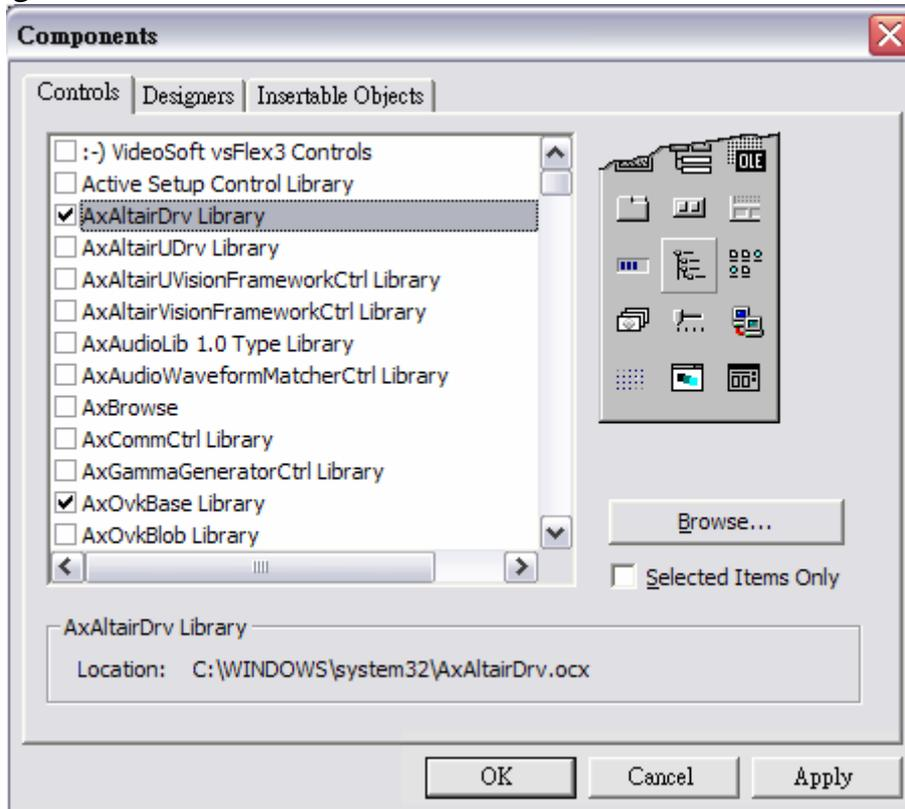

Figure 17
2. Choose menu **Project** → **Components** → **Figure 1** → **Check AxAltairDrv Library and AxOvkBase** → **OK Button** as shown in Figure 25、Figure 17.